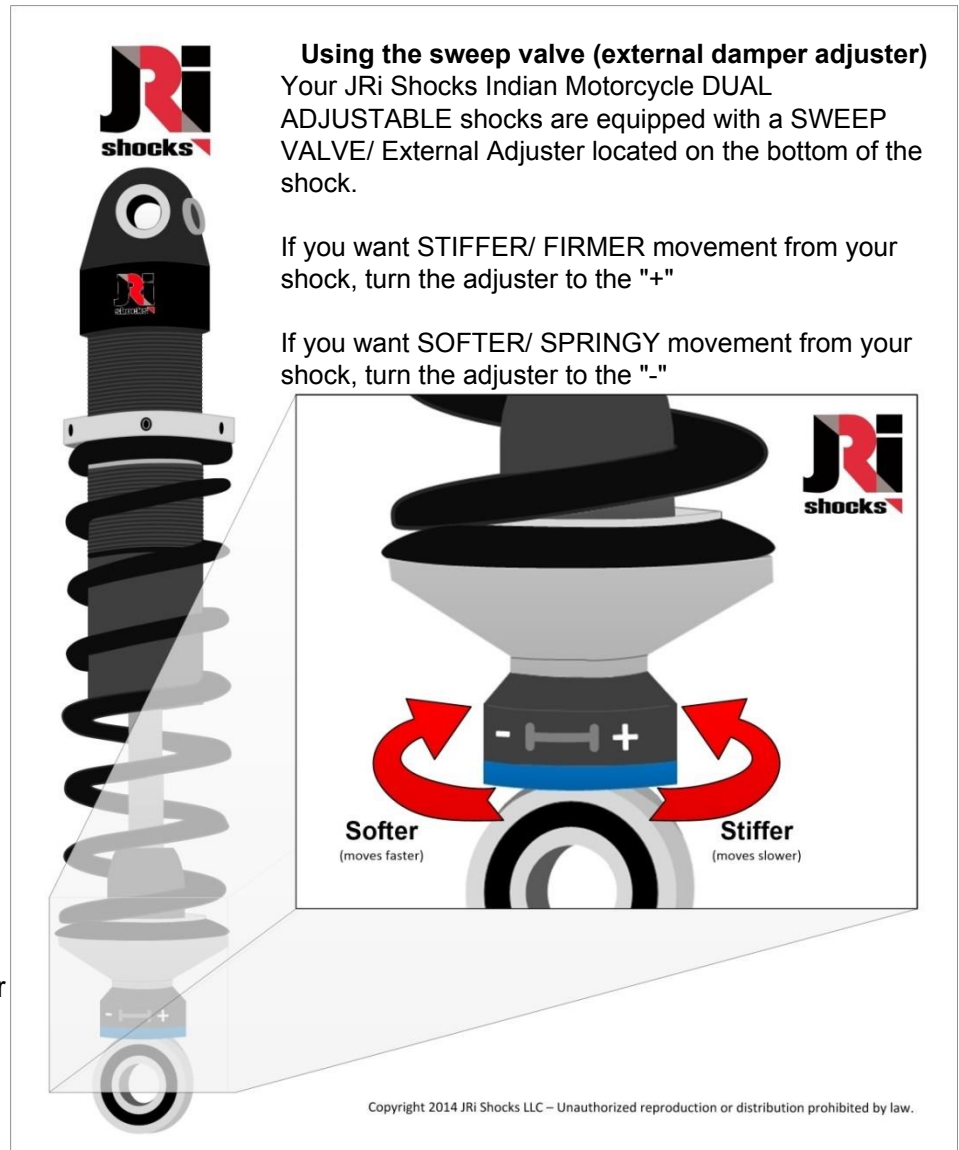

Figure 11 - Using the Sweep Valve
- a. Stiffen the rear suspension via the external damping adjuster 3 to 5 clicks at a time until the rear suspension stabilizes (Sweep Valve – **See Figure 11**).